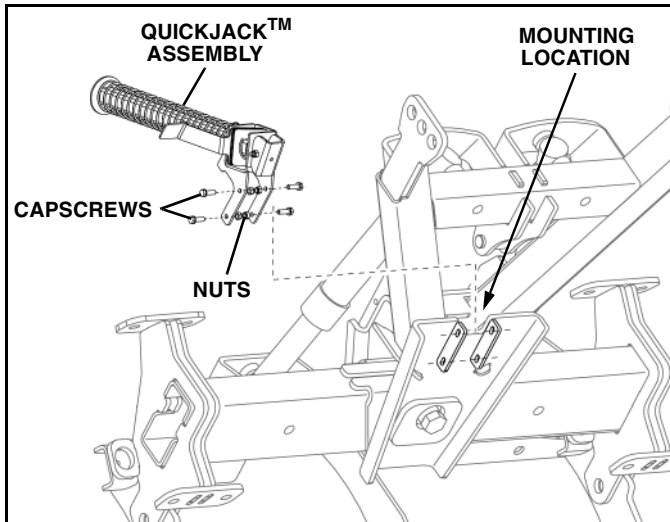

Figure 1-7
7. Position QuickJack™ assembly on lower A-frame brackets and loosely install four capscrews and nuts. Slide jackstand forward until it contacts the A-frame and tighten the hardware securely. (See Figure 1-7).